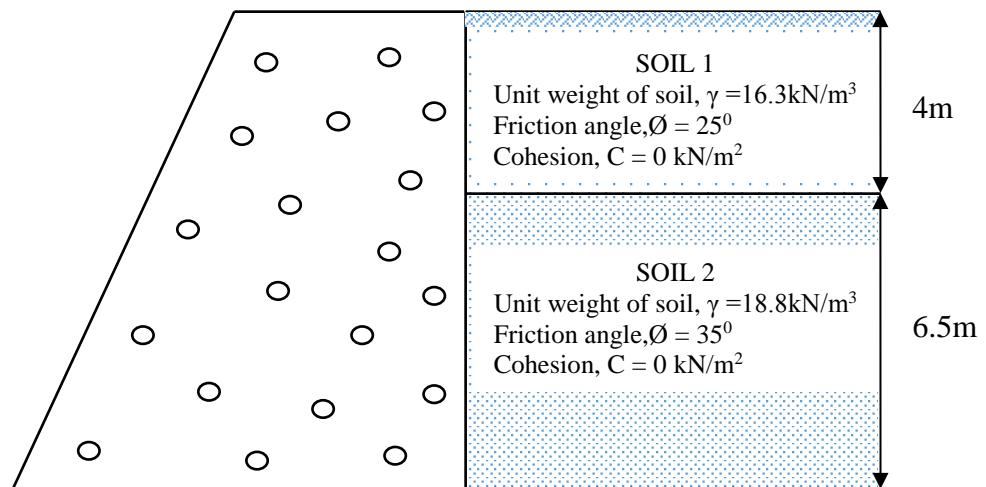

Figure B2(a) / Rajah B2(a)
- (a) Based on **Figure B2(a)**, determine the total active thrust of gravity wall below.
- (b) **Figure B2(b)** shows a retaining wall. Calculate the factor of safety against sliding.